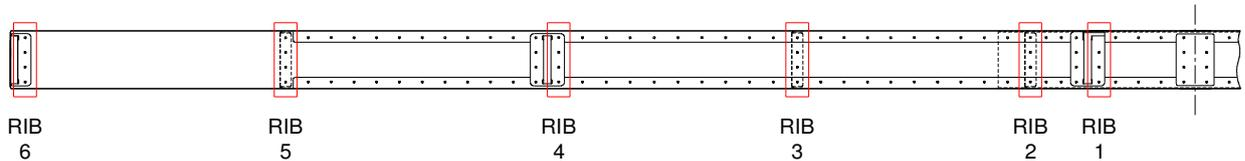

Figure 2 - Left side of stabilizer shown only
- 3.2. Remove the 3 rivets (4 rivets for tailplanes with laminated hinge fittings) from the inboard flange of the inboard elevator hinge, LH and RH at Rib 1. See Figure 2.
- 3.3. Remove the rivets through the rear spar at ribs 2, 3, 4, and 5, LH and RH. See Figure 2.